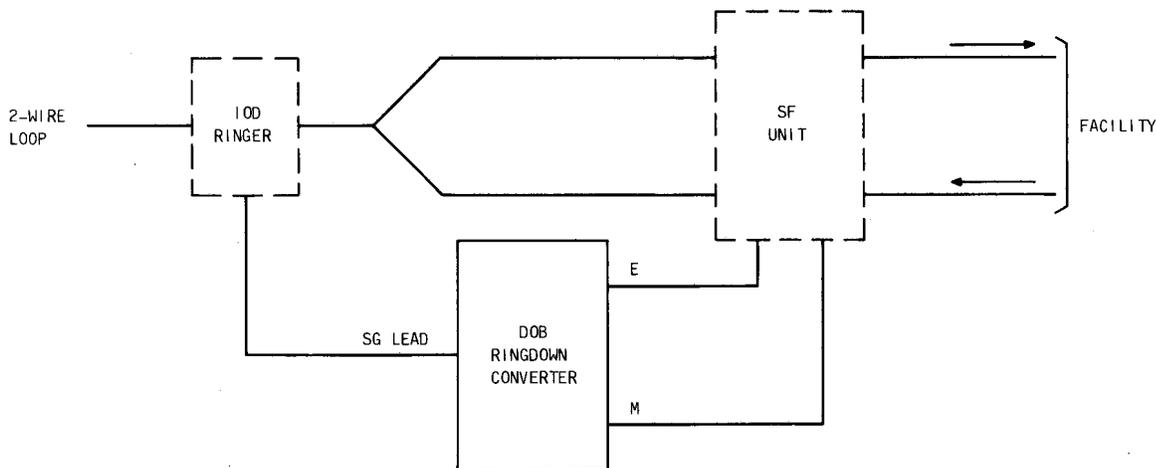

Fig. 6-6—DOB Ringdown Converter Shown in Typical Application with SF Unit and 10D Ringer
**6.14 Description:** The DOB ringdown converter (Fig. 6-6) converts battery and ground on the SG Lead to E & M Lead signaling (and E & M to SG Lead). When the E Lead changes from ground to open from the SF unit, the DOB places -24 Vdc on the SG Lead. When -24 Vdc is placed on the SG lead from the loop, the DOB (removes battery) applies a ground to the M Lead toward the SF unit.